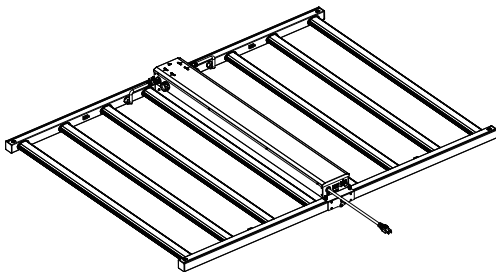

Figure 4
- 4: Connect DC output connector to the corresponding interface of the driver box.(Figure 4)